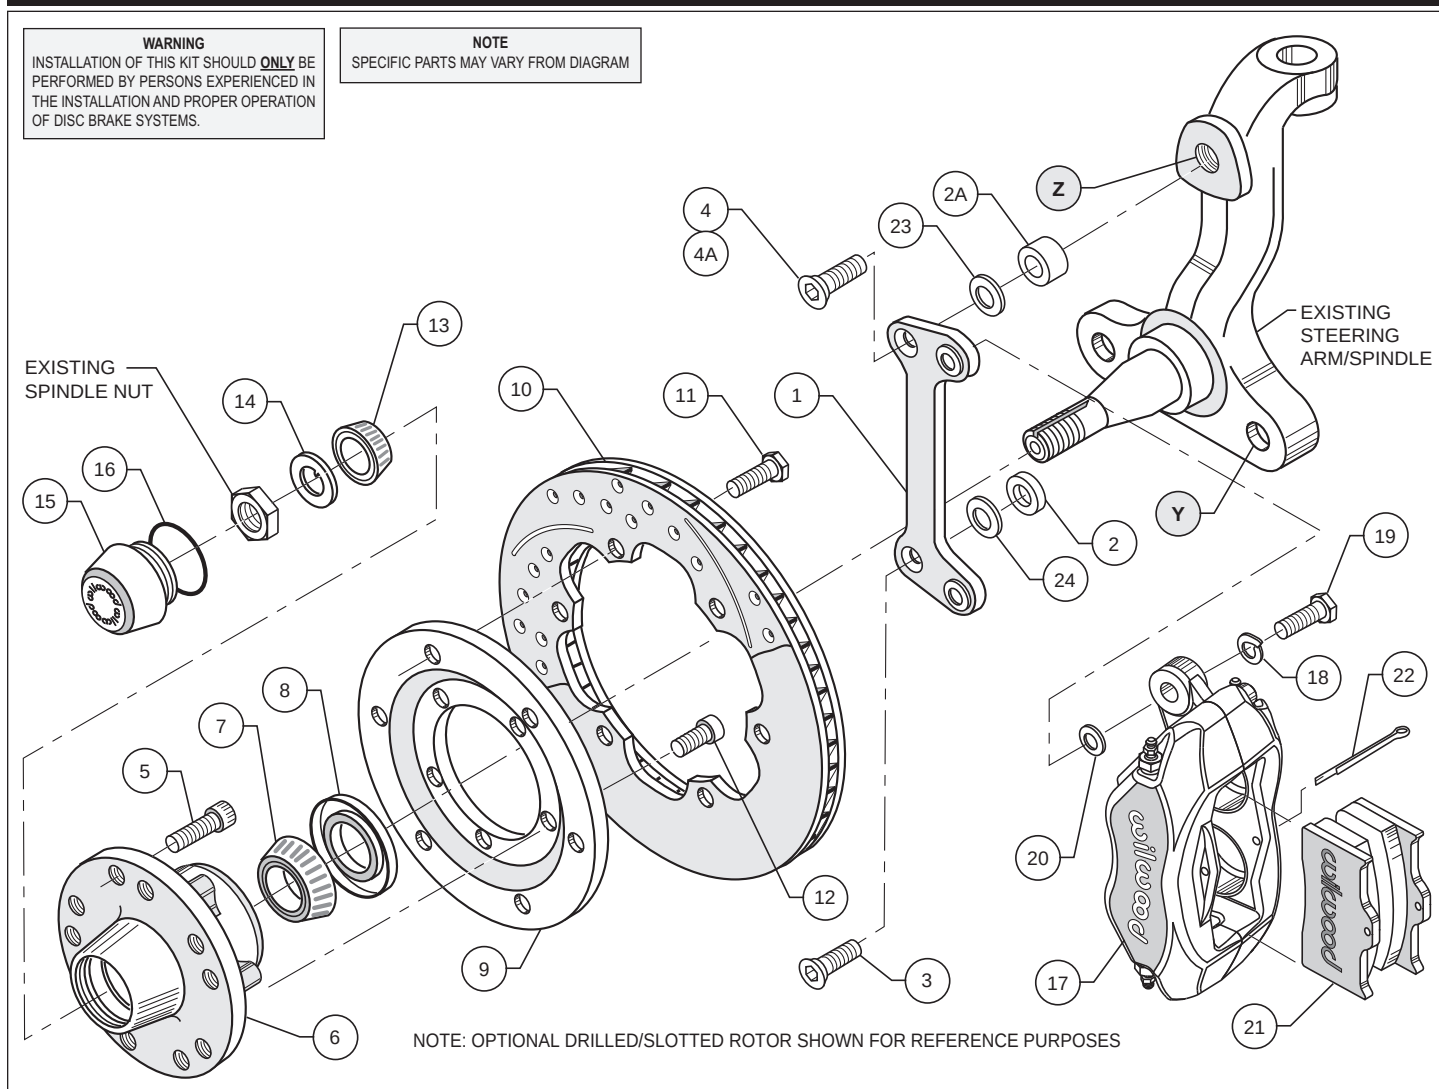
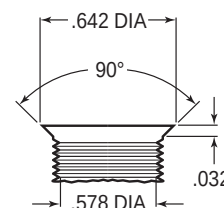
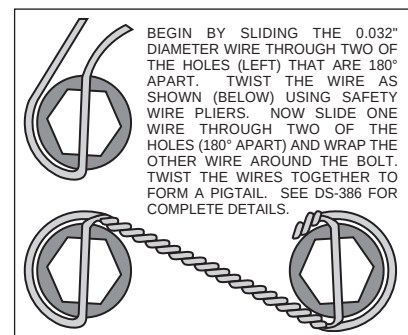

Figure 1. Typical Installation Configuration
Figure 3. Drill and Tap Detail
Figure 4. Safety Wire Diagram
•**NOTE:** 1964-66 spindles may require the following modifications (reference Figure 1 and Figure 3): Top anchor pin hole (Z) must be drilled and tapped to the dimensions as outlined in Figure 3. Bottom rear steering arm bolt hole (Y) in the spindle and steering arm must be enlarged to .50" by drilling. A 1/2-20 backing nut (not supplied in kit) will need to be acquired to torque bracket / steering arm bolt (supplied in kit).
•Apply red *Loctite*® 271 to bolt threads (3 and 4, or 4A for disc spindle application) before assembly of the caliper mounting bracket (1). Mount bracket (1) to dust face plate of spindle using the bottom bolt (3) while positioning spacer (2) between bracket and spindle face, finger tighten only. Install the upper bolt 4 (or, for disc brake spindle, use 4A with spacer 2A positioned between bracket and top hole of spindle face), torque to 120 ft-lb. Torque bolts (3) to 77 ft-lb. **NOTE:** Be sure the heads of the bracket (1) insert nuts are facing outward toward the wheel. **NOTE:** Because of a tolerance variation among spindles, it may be necessary to install a shim washer (23 and/or 24) between the spacers (2 and/or 2A) and the bracket (1) in order to square the bracket to the rotor.
•Install wheel studs (5) into the hub (6). Torque to 77 ft-lb. **NOTE:** There are two five lug patterns in the hub (5 x 4.50 and 5 x 4.75). Make sure of the correct hole pattern for the correct wheel application before installing studs into hub.
•Pack the large inner bearing cone (7) with high temperature disc brake bearing grease (available from your local auto parts store) and install into the backside of the hub (6).
•Install the grease seal (8) by pressing into the backside of the hub (6).
•Attach rotor adapter plate (9) to rotor (10) using bolts (11). Torque bolts (11) to 180 in-lb. Safety wire bolts (11) using standard 0.032 inch diameter stainless steel safety wire as shown in Figure 4. Please refer to Wilwood's data sheet DS-386 (available at www.wilwood.com/pdf/ds386.pdf) for complete safety wire installation instructions. **NOTE:** Dished side of adapter plate (9) should face hub (6). The mounting tabs on the rotor (10) should face toward the hub as well and line up with the holes on the adapter plate (9).
•Mount the adapter/rotor assembly (9 and 10) to the hub (6) using bolts (12). Torque bolts (12) to 22 ft-lb. Safety wire bolts (12).
•Pack the small outer bearing cone (13) with high temperature disc brake bearing grease and install into front of hub (6). Slide the hub/rotor assembly (6 and 10) with outer bearing cone (13) onto the spindle. Secure using spindle washer (14), stock adjusting nut and nut locking device. Adjust bearings per Original Equipment Manufacturer (OEM) specifications.
•Install the dust cap (15) onto the hub (6). Friction created by the o-ring (16) on the dust cap (15) keeps it from unscrewing. The O.D. of the existing spindle washer may be larger than the I.D. of the dust cap (15) not allowing it to seat against the hub face. Some grinding on the washer O.D. may be necessary to clear the I.D. of the dust cap (15).
•**NOTE:** Please reference the caution statement at the beginning of the assembly instructions. With the bleed screws pointing up, mount the caliper (17) onto the caliper bracket (1) using lock washers (18), bolts (19) and caliper spacer (20) positioned between caliper and bracket. Finger tighten. View the rotor (10) through the top opening of the caliper (17). The rotor (10) should be aligned in the center of the caliper (17). If not, adjust the caliper (17) by using 0.032 inch thick shims (20) placed between the caliper mounting bracket (1) and the caliper (17). Finger tighten and recheck alignment. Apply red *Loctite*® 271 to bolt threads (19) and torque to 30 ft-lb. Safety wire caliper bolts (19).
•Install the disc brake pads (21) and secure using cotter pin (22).